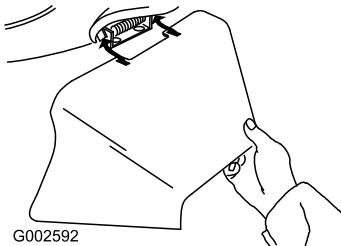

Figure 22
3. Install the side discharge chute and close the door onto the chute (Figure 22).